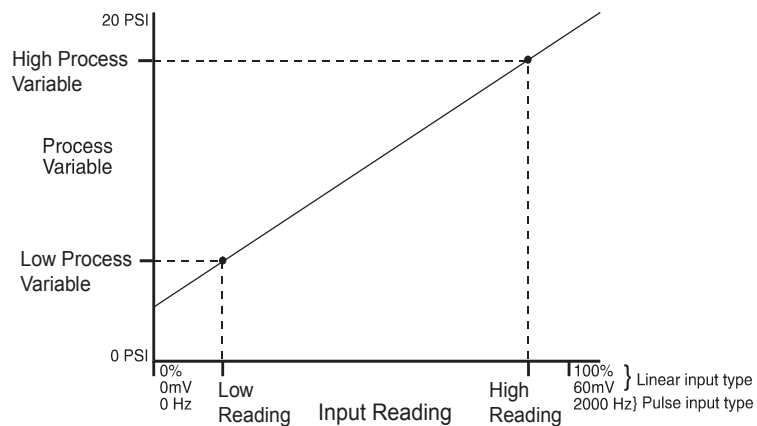

Figure 4.2 Two Points Determine Process Variable Conversion
The scaling function is defined by two points on a conversion line. This line relates the process variable (PV) to the input signal. The engineering units of the process variable can be any units—the graph in *Figure 4.2* shows PSI as an example.